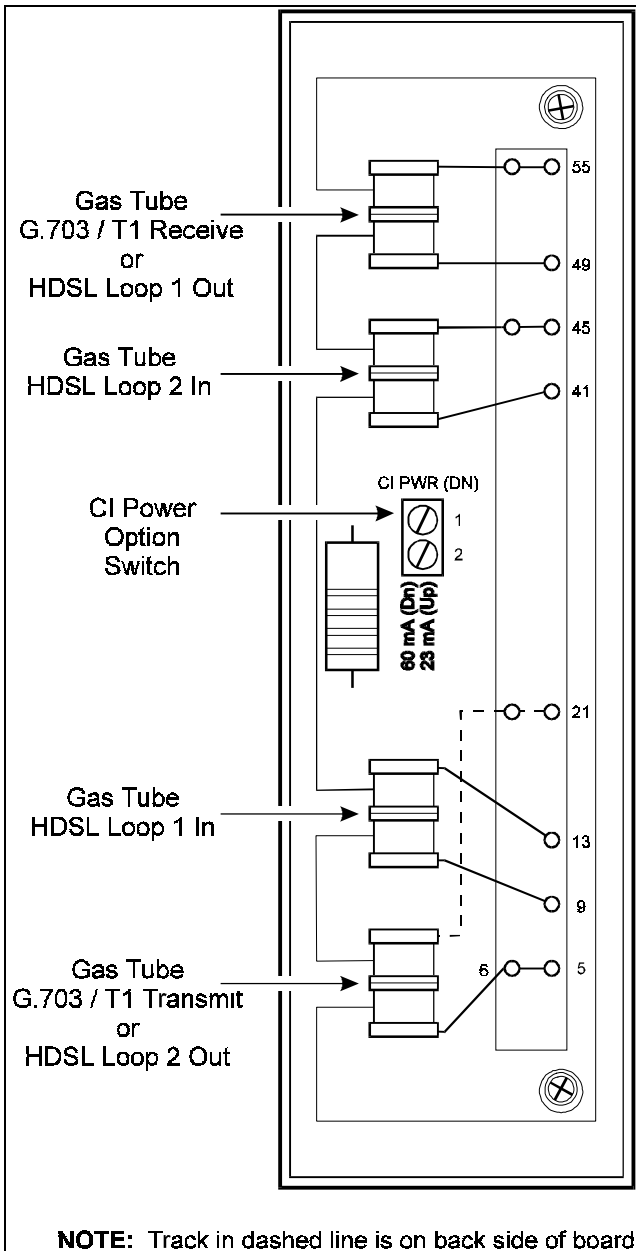

Figure 3. Lightning Protection Unit. The LPU provides primary lightning protection for the HDSL loops and customer T1 circuits.
7.04 Lightning Protection Unit (LPU). The Lightning Protection (LPU), shown in Figure 3, is a printed board assembly that attaches to the card cage at the rear of each plug-in unit slot, over the wire wrap connector pins. All HRE-423 versions have the LPU shipped as part of the basic enclosure. The LPU must be installed to provide proper grounding and protection. The unit contains four gas tubes, which provide the actual surge protection. The individual gas tubes are field replaceable components. For ease in replacing gas tubes, PairGain recommends that you use a gas tube extractor.